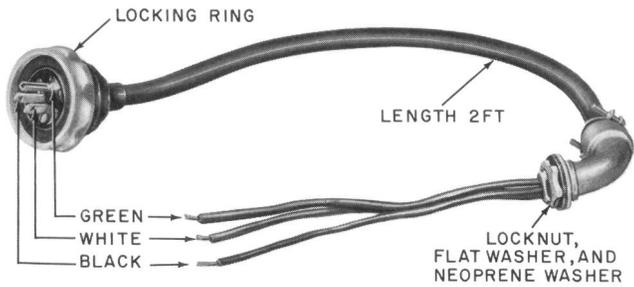

Fig. 14—KS-19580, List 30 Power Cord Assembly
3.17 A KS-19580, List 30 power cord assembly (Fig. 14) is available for making the power